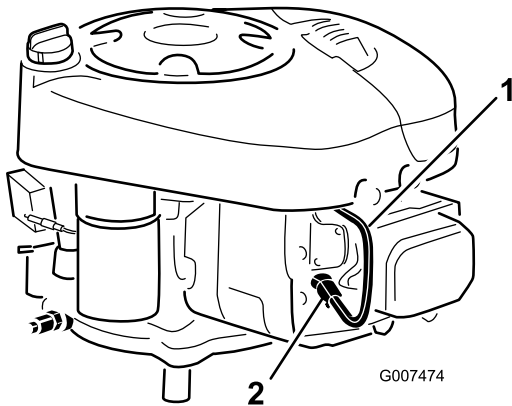

Figure 25
6. Reach under the body of the machine above the left rear wheel and disconnect the wire from the spark plug (Figure 25).
3. Connect the wire to the spark plug (Figure 25).